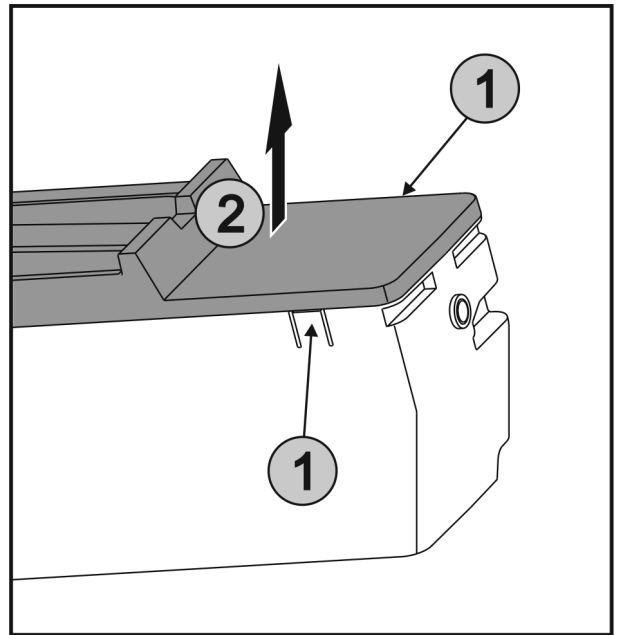

Fig. 48
- Press the lugs Fig. 48 (1) on both sides of the EasyTwist-Ice simultaneously and take off the cover Fig. 48 (2) upwards.